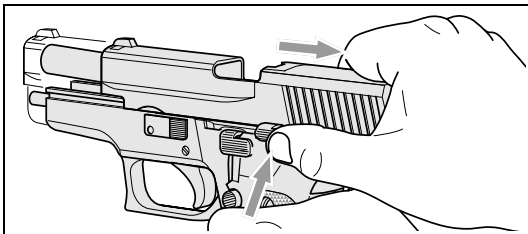

Fig. 7
4. Draw back slide **4** to the stop and thumb up slide catch lever **18** (see Fig. 7). The round is ejected and the slide is caught in the open position.